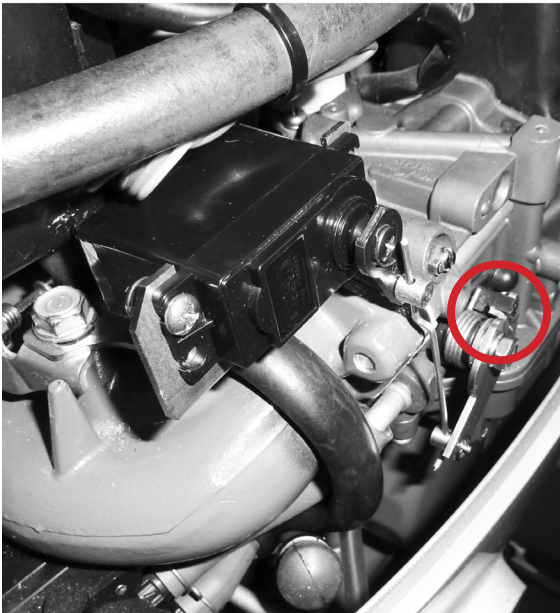

Figure 4
Make sure "hooks" in throttle plate are positioned as shown in red circle in Fig 4.
Step 6: See Fig 4 & 5